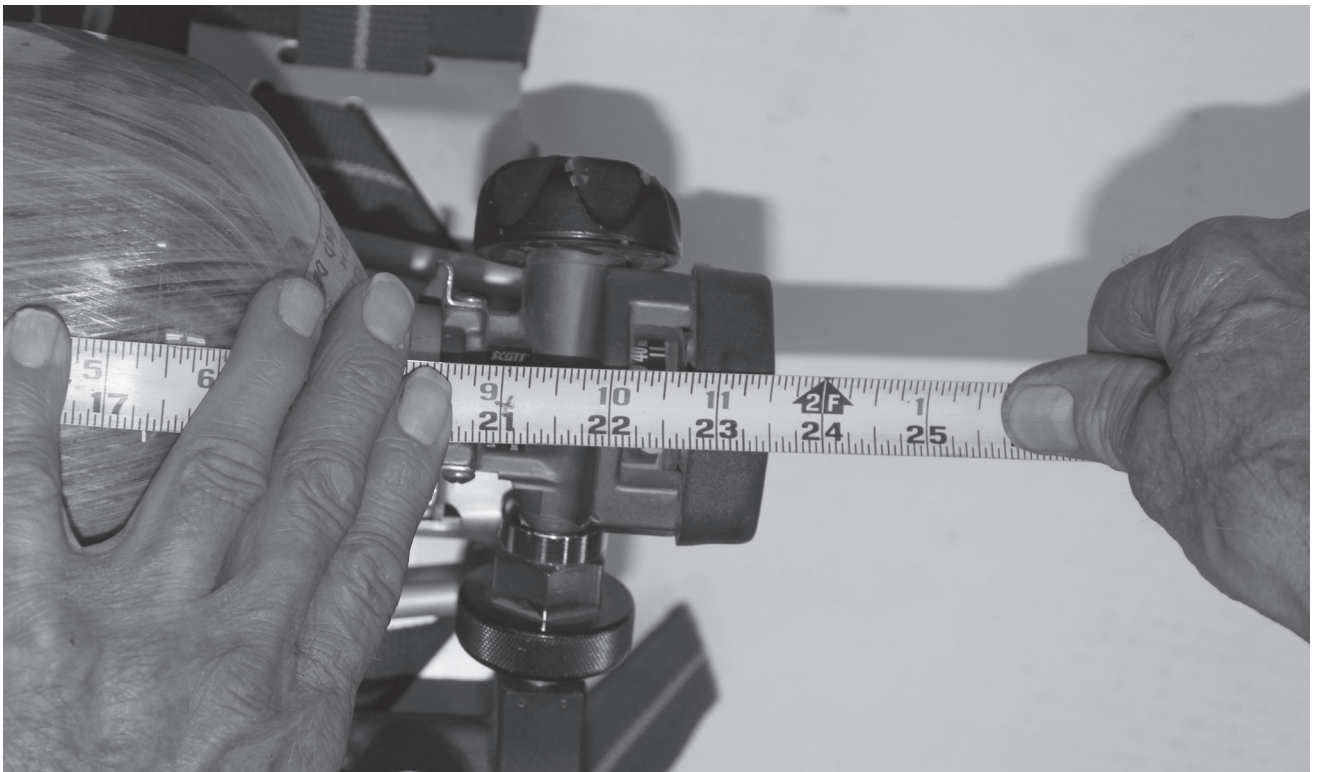

Figure 4
6. Remove the (4) T-27 torx head screws that are holding the Upper Bracket Assembly in place. Be sure not to let the weight of the Upper Bracket hang on the Adjustment Rod before reattaching.
7. Reattach the Upper Bracket Assembly in the desired position using the (4) T-27 torx head screws.
8. If using this bracket with a 30 min. 5500 PSI air cylinder, refer to page 20 now. Otherwise, reattach the Bumper Spacer Locator to the Upper Bracket Assembly with the (2) #2 Phillips head screws.
10. Measure the overall length of your desired air cylinder from bottom of the air cylinder valve to top of the air cylinder (see Figure 4, below). Add 1/2" to this measurement.